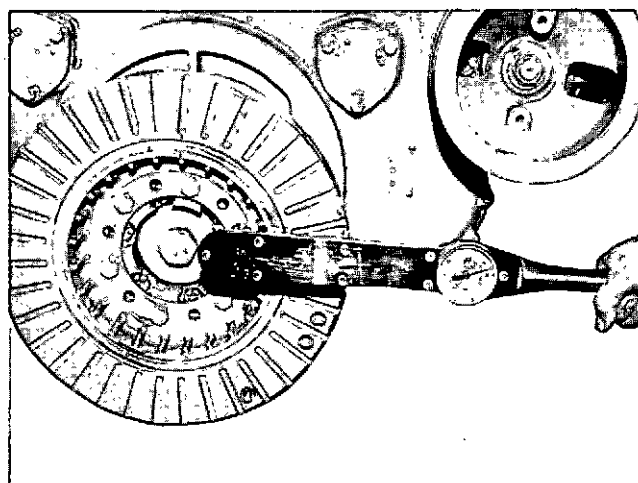
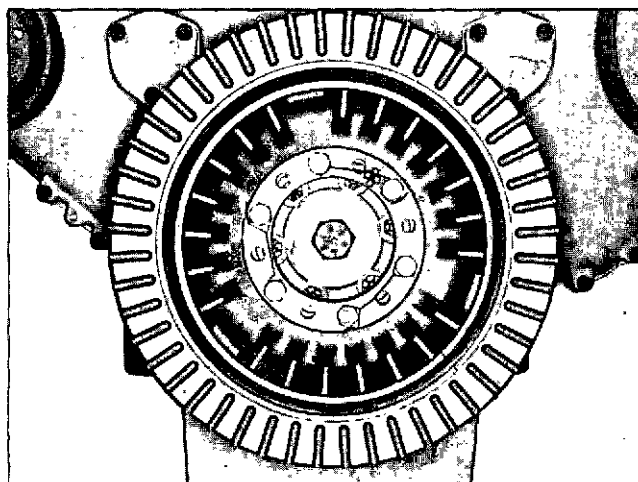

Fig. 14-1-74, V414169. Installing vibration damper
Fig. 14-1-75, V414224. Vibration damper with lockwires installed
2. Install vibration damper and fasten securely with capscrews. Fig. 14-1-74. Torque capscrews to 70 to 80 ft-lb [9.6810 to 11.0640 kg m]; Fig. 14-1-75. Lock capscrews in position with lockwire if used.